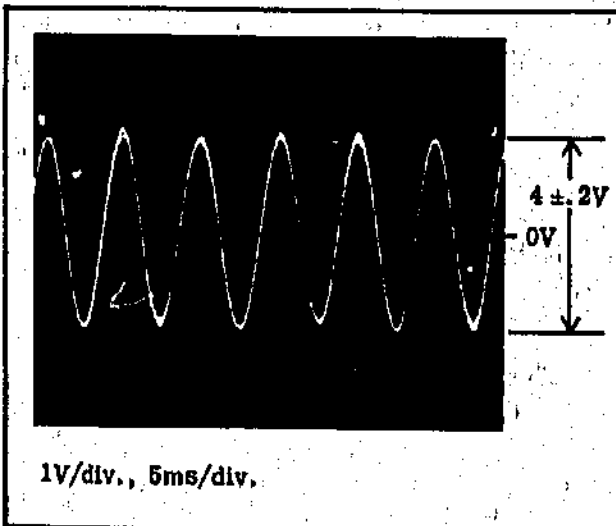

Figure 5-7. Oscillator Level at A1TP1.
- b. Connect oscilloscope to A1TP1 (see Figure 5-12) and adjust oscilloscope display for 4V ±0.3V peak to peak as shown in Figure 5-7 with A1R18 (Osc Level Adj) and A1R13 (Dist. Adj).